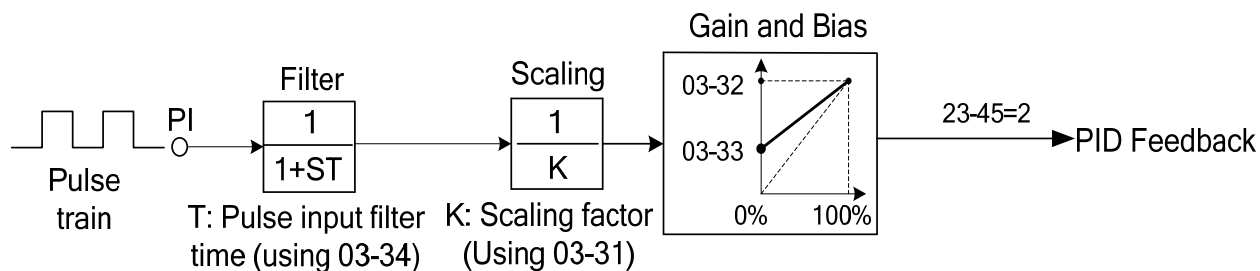

Figure 4.4.24 Pulse input adjustment
* Refer to Figure 4.4.24 for the pulse input specification.